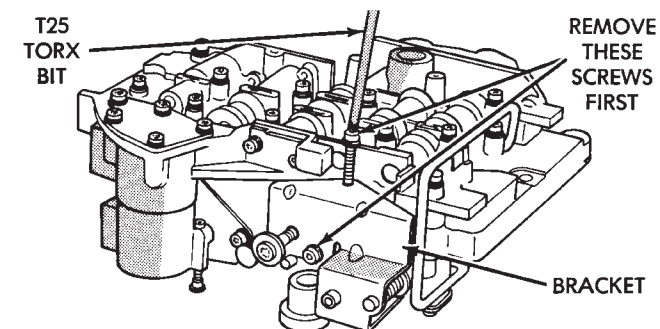

Fig. 77 Adjusting Screw Bracket Fastener
(18) Remove screws attaching pressure adjusting screw bracket to valve body and transfer plate (Fig. 77). Hold bracket firmly against spring tension while removing last screw.